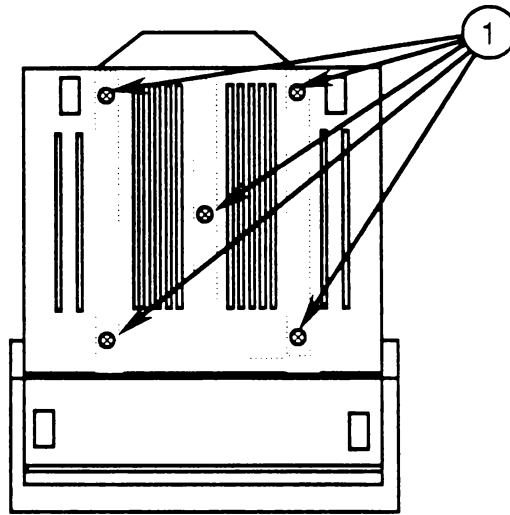

FIGURE 7
5. Replace the five screws (Figure 7, #1) at the bottom of the monitor.